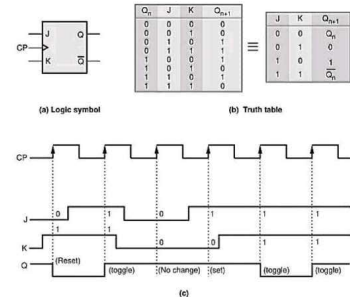

Fig. Q.58.2 Input and output waveforms for positive edge triggered JK flip-flop
• Fig. Q.58.2 shows logic symbol, truth table and input/output waveforms for positive edge triggered JK flip-flop.